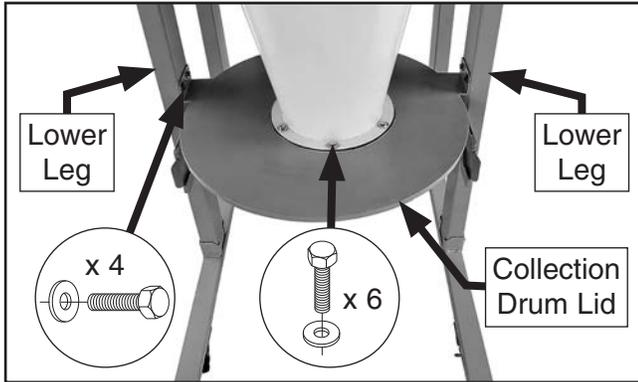

Figure 24. Collection drum lid attached to cyclone funnel and lower legs.
22. Attach collection drum lid to cyclone funnel using (6) $\frac{5}{16}$ "-18 x $\frac{3}{4}$ " hex bolts and (6) $\frac{5}{16}$ " fender washers (see **Figure 24**). Do not fully tighten fasteners yet.
23. Secure collection drum lid to lower legs using (4) $\frac{5}{16}$ "-18 x $\frac{3}{4}$ " hex bolts and (4) $\frac{5}{16}$ " fender washers (see **Figure 24**).